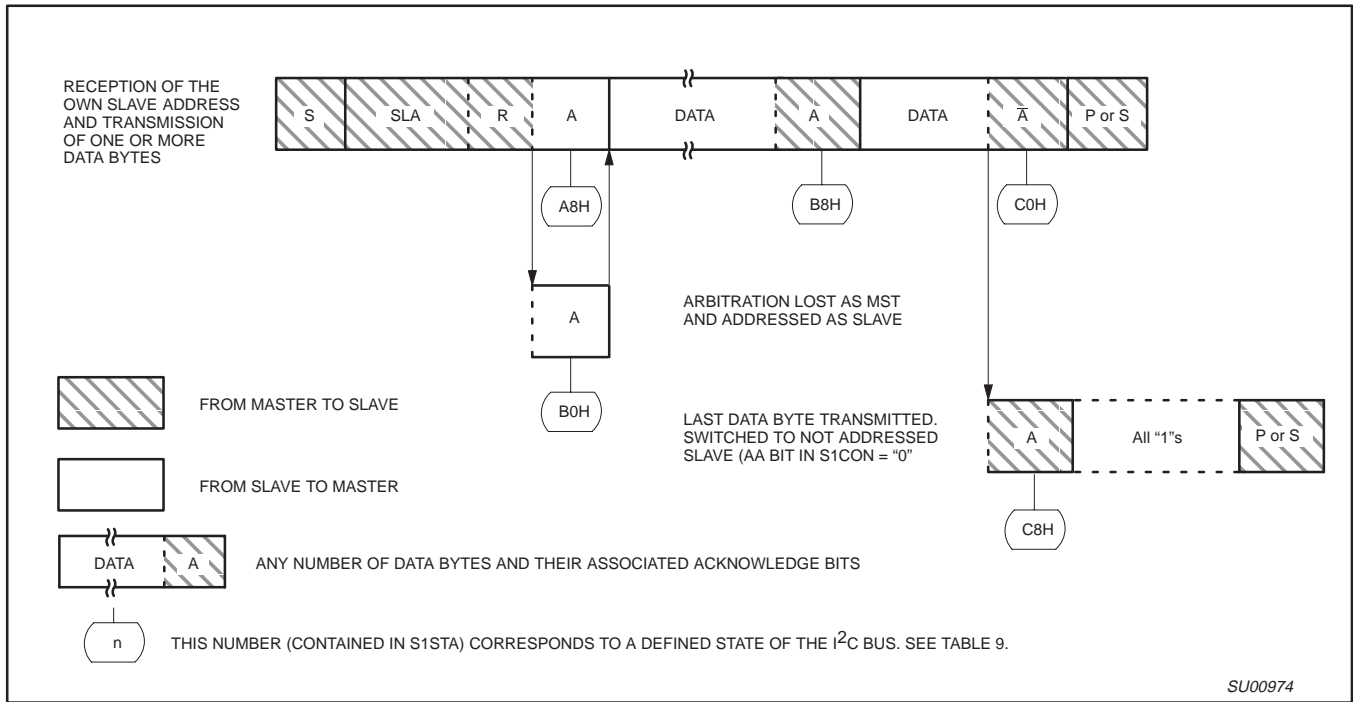

Figure 42. Format and States of the Slave Transmitter Mode
When SIO1 is in the addressed slave transmitter mode, state C8H will be entered after the last serial is transmitted (see Figure 42). When SI is cleared, SIO1 leaves state C8H, enters the not addressed slave receiver mode, and the SDA line remains at a high level. In state C8H, the AA flag can be set again for future address recognition.
**Slave Transmitter Mode:** In the slave transmitter mode, a number of data bytes are transmitted to a master receiver (see Figure 42). Data transfer is initialized as in the slave receiver mode. When S1ADR and S1CON have been initialized, SIO1 waits until it is addressed by its own slave address followed by the data direction bit which must be "1" (R) for SIO1 to operate in the slave transmitter mode. After its own slave address and the R bit have been received, the serial interrupt flag (SI) is set and a valid status code can be read from S1STA. This status code is used to vector to an interrupt service routine, and the appropriate action to be taken for each of these status codes is detailed in Table 9. The slave transmitter mode may also be entered if arbitration is lost while SIO1 is in the master mode (see state B0H).